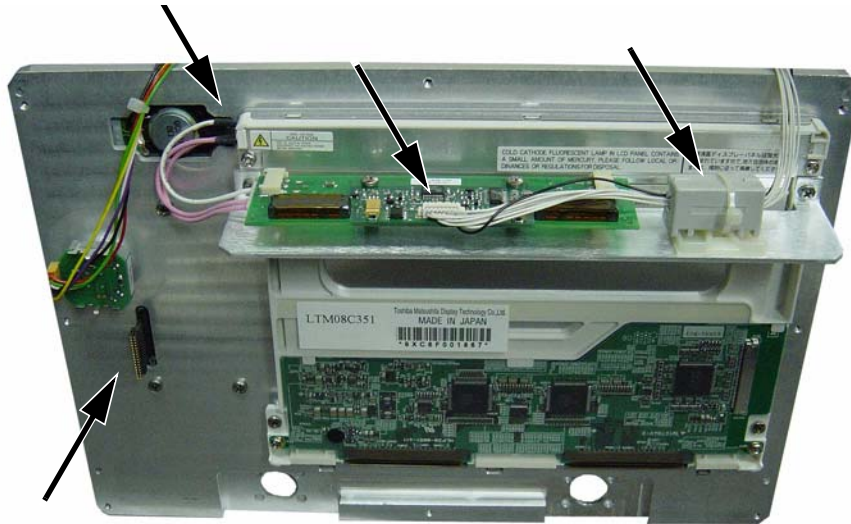

Figure 5-24. Front Panel, Separated
1. With the front panel face down on a static protected work surface, unplug the backlight inverter cable from the end of the backlight driver PCB, release the noise filter (220 Ohm ferrite core) from the backlight driver PCB support bracket (cut the cable tie), and unplug the cable from the SPA PCB to the backlight driver PCB (refer to Figure 5-24)